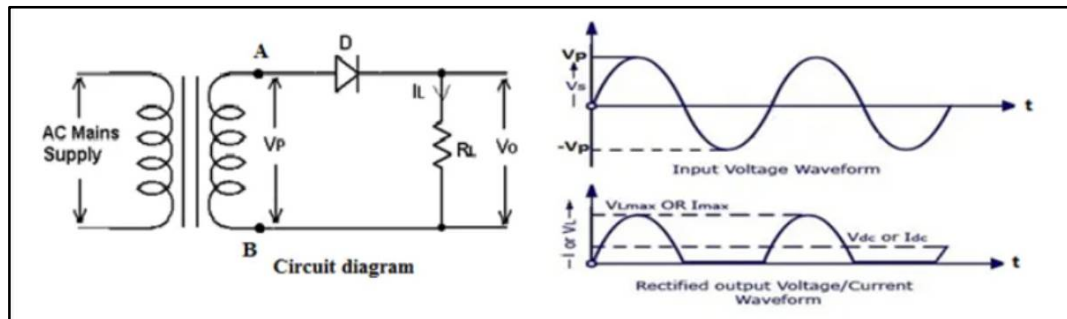

Fig.2.5: Half wave rectifier
- Half Wave Rectifier is a circuit which converts ac signal to dc signal by employing a **single PN junction diode** for rectification purpose as shown in fig.2.5.